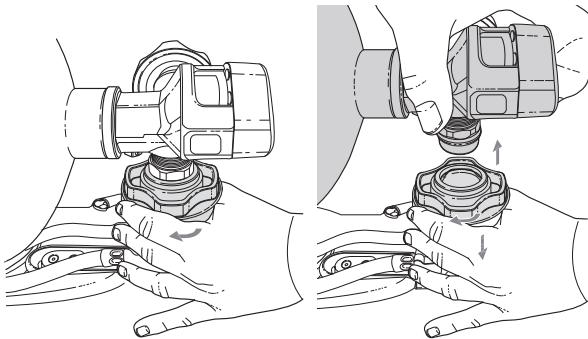

Fig. 38 Removing the cylinder valve from the quick connect coupling
- Turn the hand wheel fully clockwise until it stops (Fig. 38), then push down on the hand wheel. Lift the cylinder valve to disconnect it from the connector.